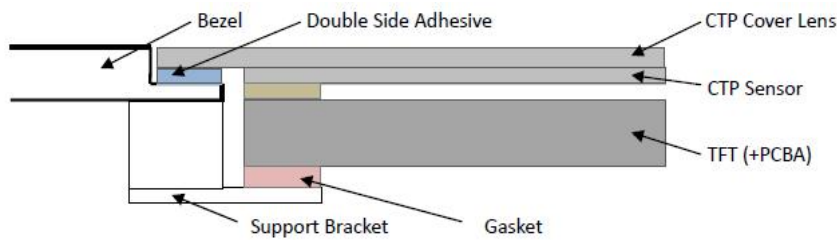

Figure 2
Active area is divided into 9 measuring areas (Refer Fig. 2). Every measuring point is placed at the center of each measuring area.
7.2 Surface Mounting (Figure 2)
7.2 嵌入安装 (附图 2)